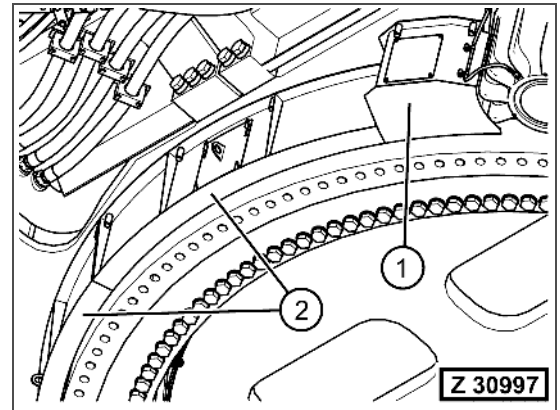

Fig. 3-405
5. Disassemble all pinion covers (Fig. 3-405, Pos. 1) and the lubrication pinion assemblies behind, refer to section 3.4.6.1 on page 3-268.
6. Disassemble all slew circle protection covers (Fig. 3-405, Pos. 2) covering the slew circle.